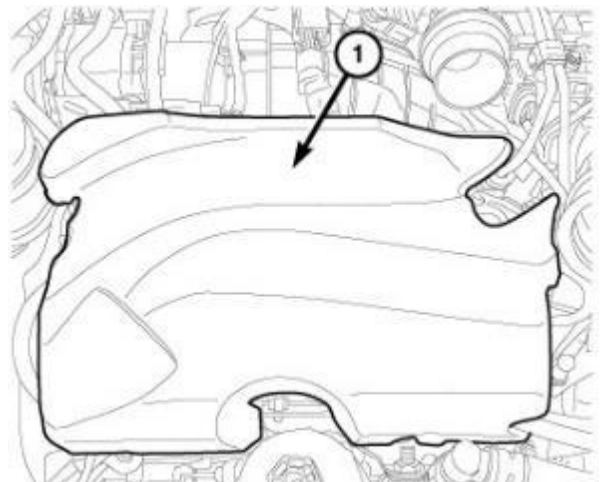

Figure 42 - Silencer Pad
12. Remove the fuel injector silencers (1) (Figure 42).